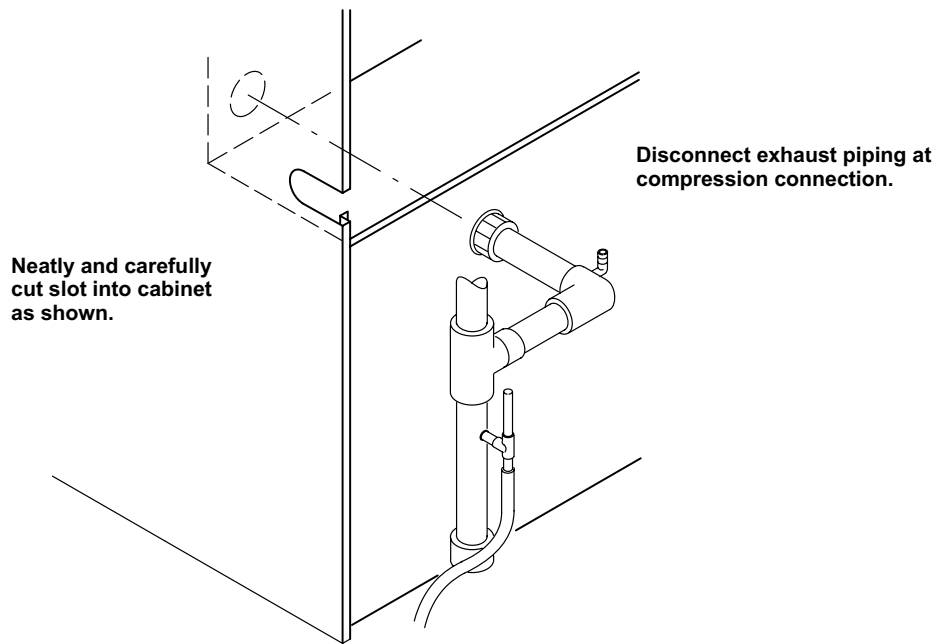

FIGURE 1
- 4 - Neatly and carefully cut a slot in cabinet side as shown in figure 1.
- 5 - Disconnect the exhaust pipe's PVC compression fitting at the heat exchanger. See figure 1. Slide the exhaust pipe through the previously created slot and move aside.